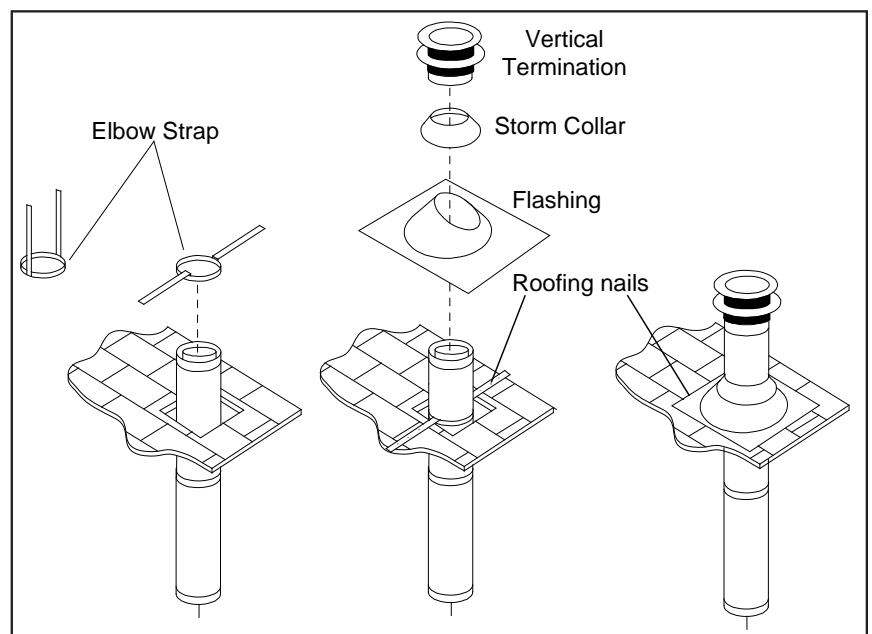

Figure 29: Vertical Vent Termination Installation.
6. Once the pipe sections have been joined, and run up through the hole in the roof, slip an elbow strap over the exposed sections, bend the support straps outwards, and push the elbow strap down to the roof level, as shown in Figure 29. Tighten the clamp around the pipe section. Use a level to make sure the pipe is truly vertical. With roofing nails, secure the support straps to the roof. Seal the nail holes with non-hardening mastic. Trim the excess length of the support straps that extend out beyond the edge of the flashing.
7. Slip the flashing over the pipe section protruding through the roof. Secure the base of the flashing to the roof with roofing nails. Use a non-hardening sealant between the uphill edge of the flashing and the roof. Insure the roofing material overlaps the top edge of the flashing as shown in Figure 29. Verify that you have at least the minimum clearance to combustibles at the roof line.
9. Slip the storm collar over the pipe, and push it down to the top of the roof flashing as shown in Figure 29. Use the non-hardening sealant around the joint between the pipe and the storm collar.